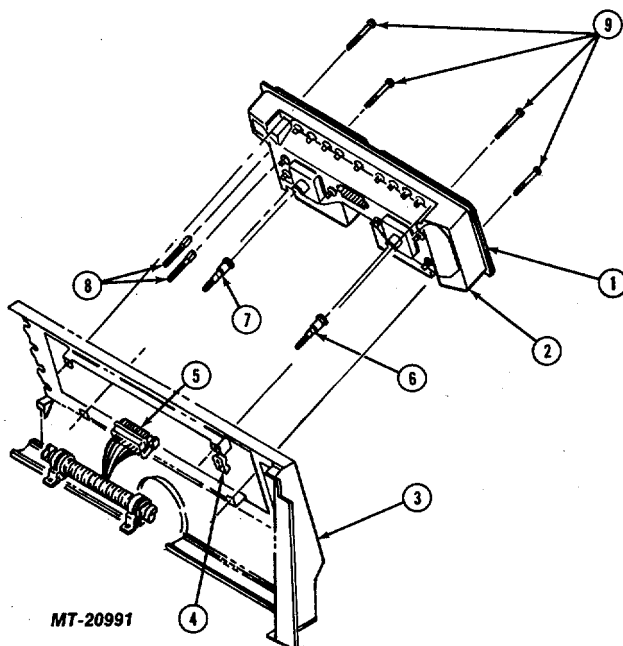

Fig. 2 Removing Instrument Cluster
2. Tilt or lift out cluster assembly from instrument panel (Fig. 2).
Legend for Fig. 2